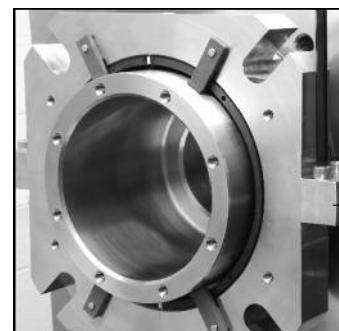

Figure 21
10. Continue evenly tightening the cap screws until the split joints are contacting and the cap screws are only snug. Avoid fully tightening the cap screws at this point as this will cause the gland assembly to tilt/rock from side to side and may result in damage to the primary ring split surfaces. Figure 21.